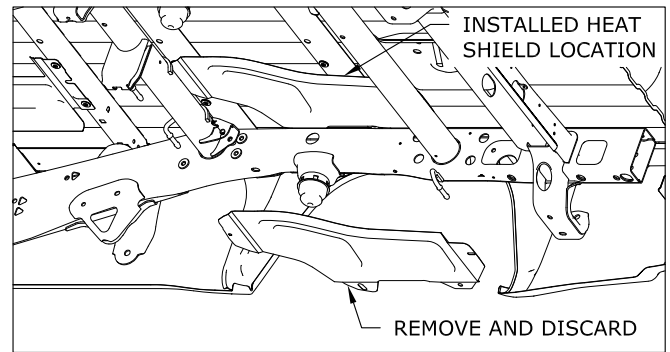

Figure A2: View Under Bed Looking at Heat Shield Removal Area
5. **Remove heat shield.** Locate and remove the heat shield directly over the exhaust between the two bed crossmember that are above the rear axle, see Figure A2.